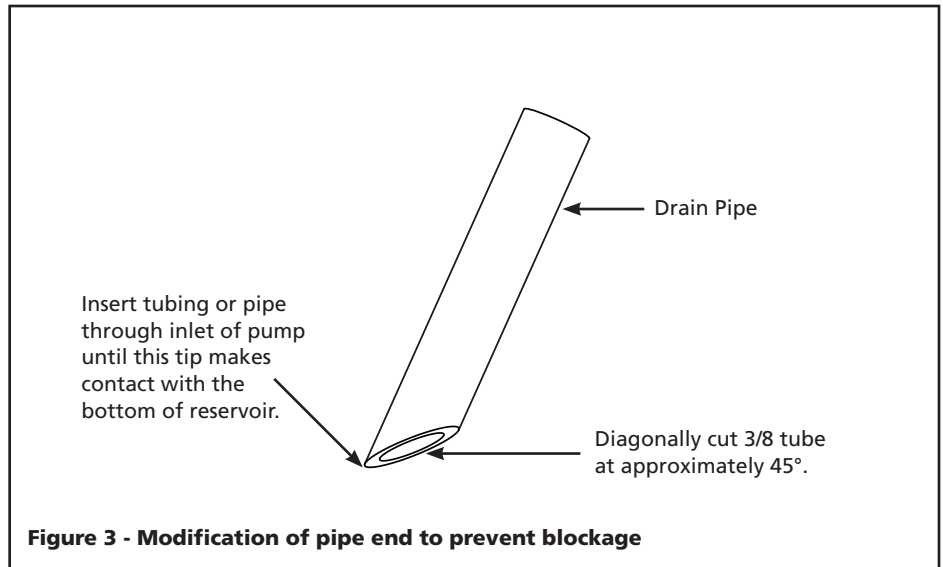

Figure 3 - Modification of pipe end to prevent blockage
- A. To prevent pipe blockage in the reservoir, modify the end of pipe or tubing as illustrated in Figure 3.